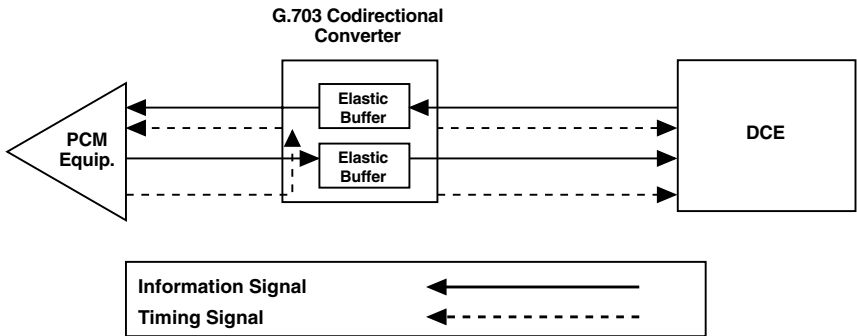

Figure 2-3. LBT-DTE Connection.
- Receive Clock and Transmit Clock are both outputs from the Converter, which serves as a DCE (see Figure 2-3 on the next page).